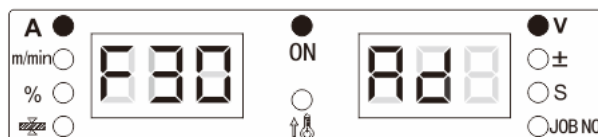

Fig.4-20 Model Display Interface
2. Press the "FN" key, nixie tube displays welder model, as shown in figure 4-20.